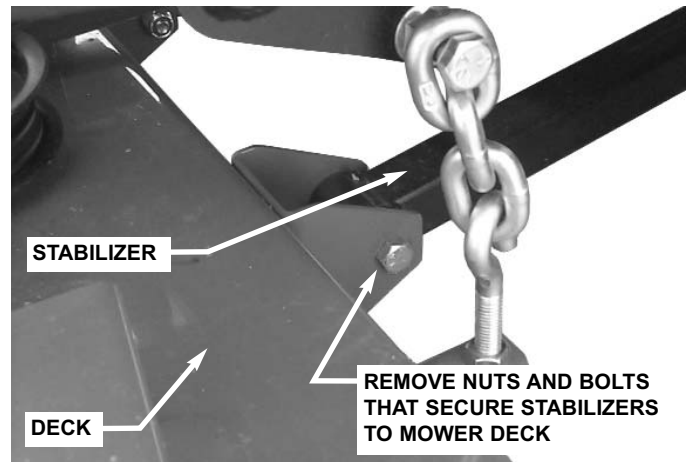

FIGURE 4.12
7. Remove bolts and nuts to disconnect both stabilizers from mower deck and power unit. See Figure 4.12 and 4.13.